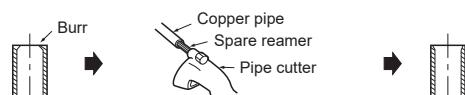

Fig. 3
- Use tape or some other material to seal the connection between the product's drain hose and extension drain hose (5/8 in. (16 mm) inner diameter) (J). (Fig. 3)
- When connecting the drain hose to the hard vinyl chloride pipe, be sure to insert it securely into the pipe. (Fig. 3)
- Remove all burrs from the cut section of the pipe, ensuring that precautions are taken to avoid getting metal shavings into the piping. (Fig. 3)